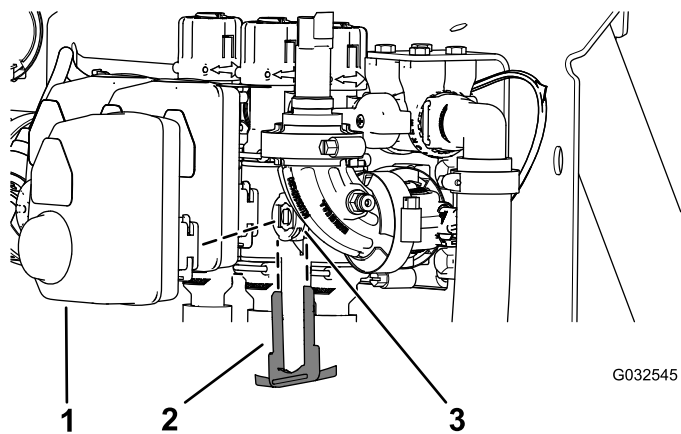

Figure 107
2. Remove the retainer that secures the actuator to the manifold valve for the section valve or agitation valve (Figure 107).